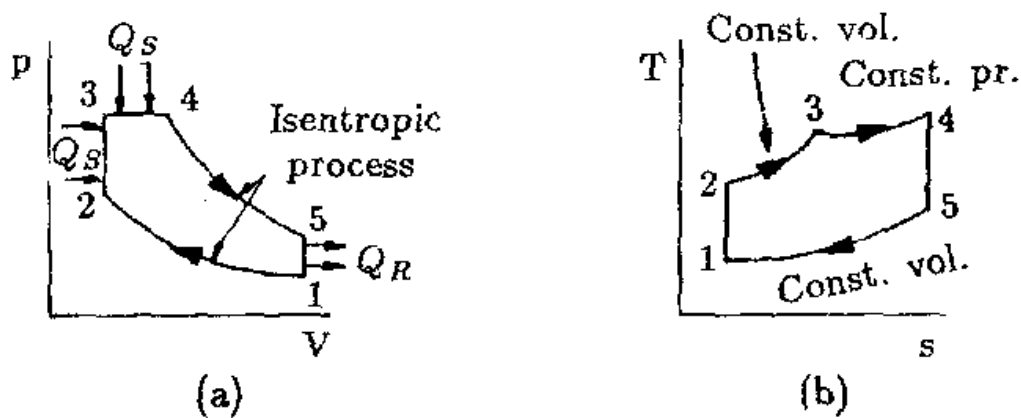

Fig. 3.8 Dual Cycle
- Therefore, a cycle that is a compromise between Otto and Diesel cycles (also call mixed cycle or limited pressure cycle) as shown in Fig. 3.8, is introduced.